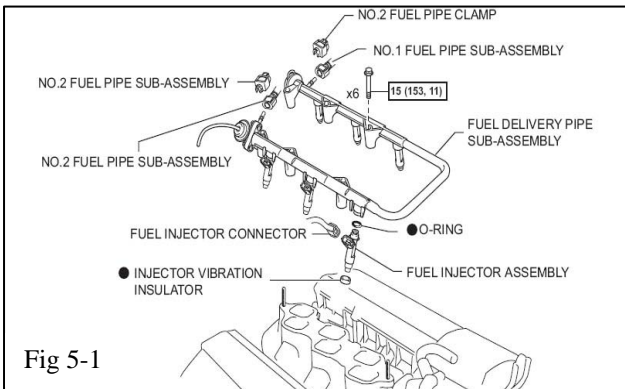

Fig 5-1
(a) For the No. 1 fuel pipe, remove the fuel pipe clamp. Pinch the tube connector, and pull the fuel pipe out of the connector as shown (Figs 5-1, 5-2, 5-3). Repeat for the No. 2 fuel pipe.
- (b) Disconnect the 6 fuel injector connectors. Remove the 6 bolts and fuel delivery pipe together with the 6 fuel injectors (Figs 5-1 & 5-4).